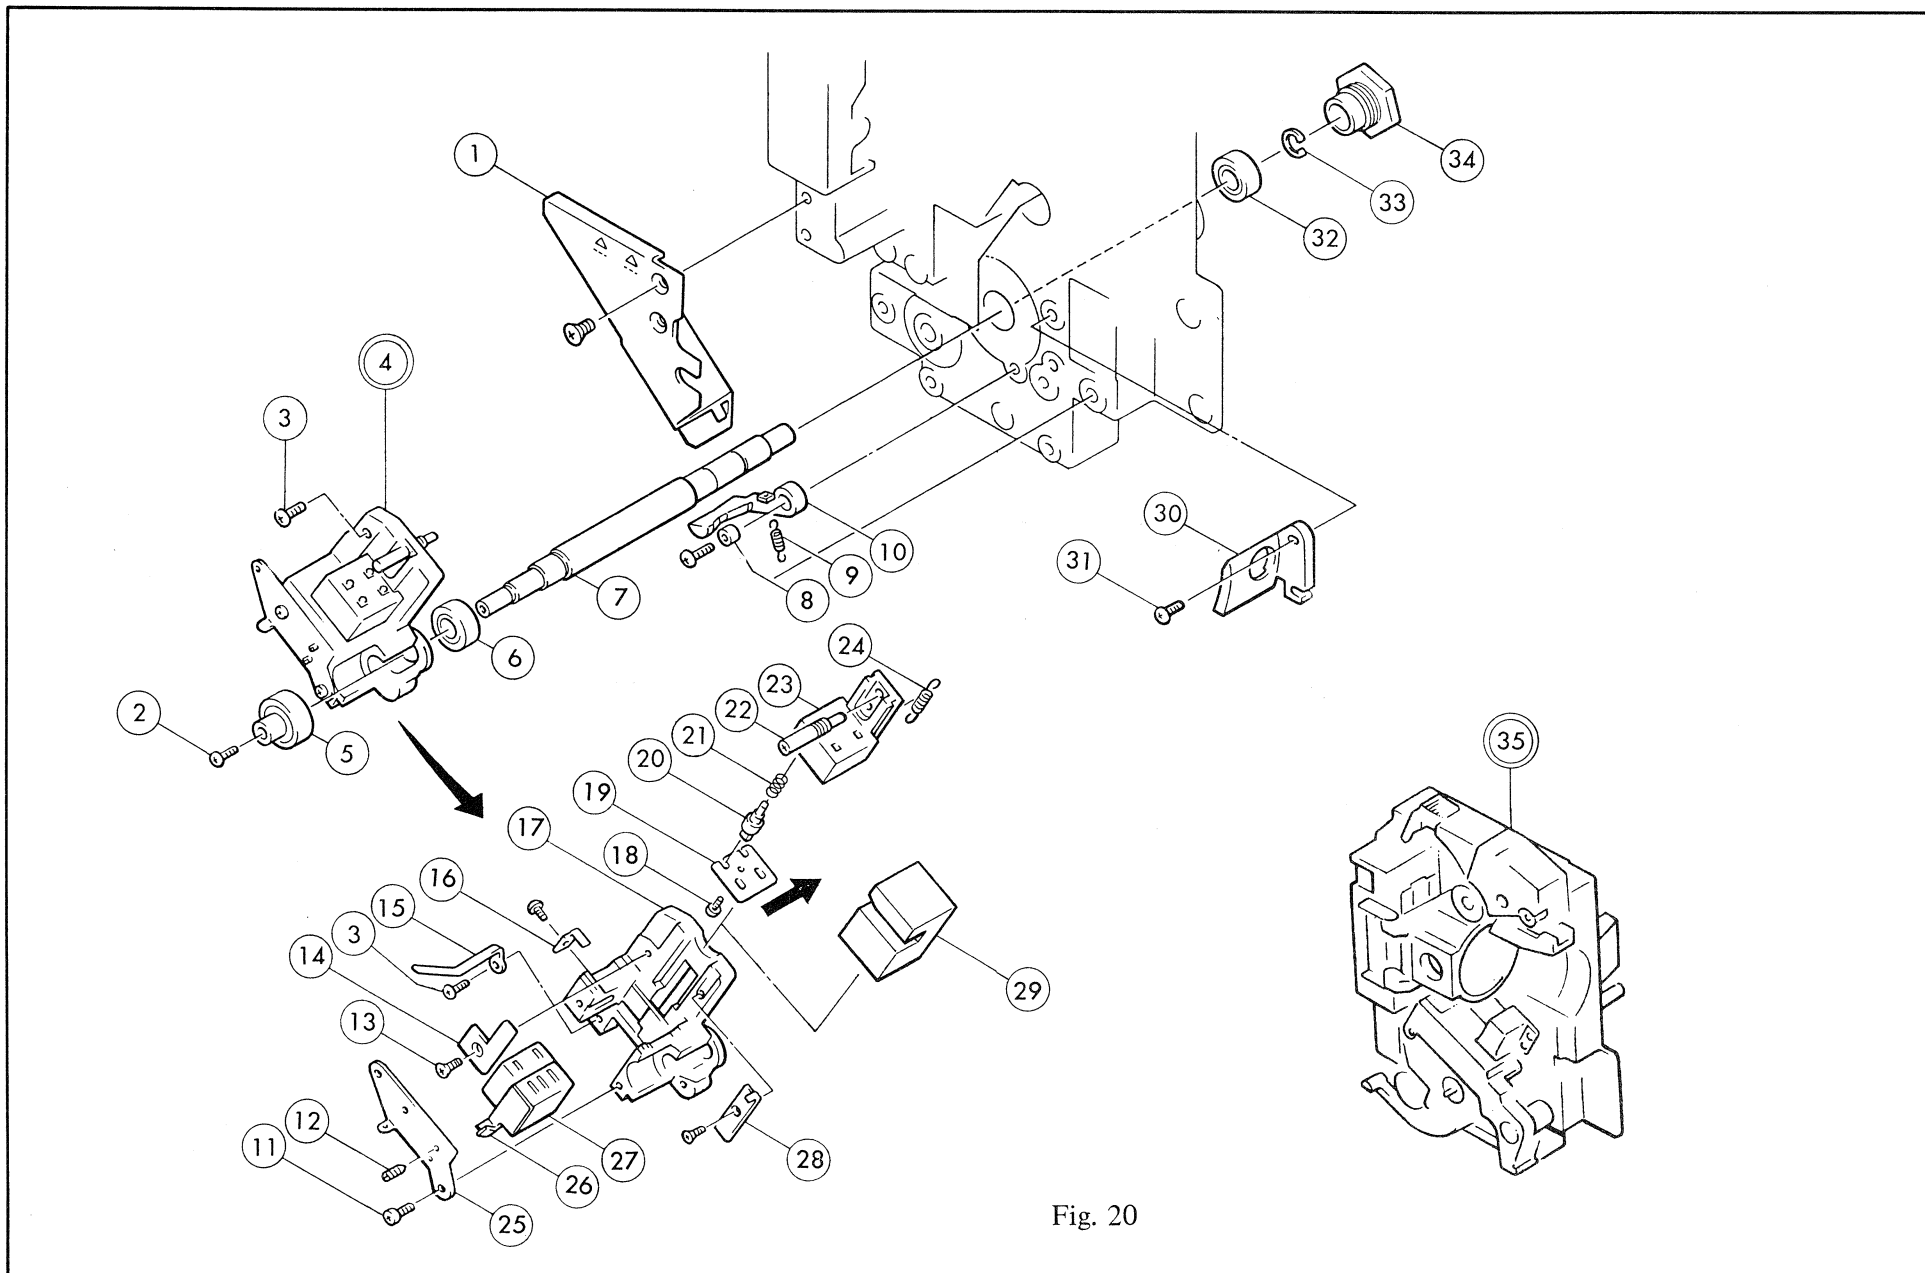

Fig. 20
### III – 2 – 10 Holder Head Assy and Shaft Sound Drum (See Fig. 20)
1. Unscrew 1 piece of ② to remove ⑤.
2. Unscrew 3 pieces of ③ to remove ④.
3. Loosen 2 pieces of ⑫ to remove ㉔ and ㉕. (Type S8 only)
4. Loosen 2 pieces of ⑫ to remove ㉙. (Type R8 only)
5. Disconnect ㉔ to remove assy parts of ㉓ from ⑰. (Type S8 only)
6. Remove ㉔ and ㉓ to pull out ⑦ together with ⑥.
7. See Fig. 20 for further disassembly.